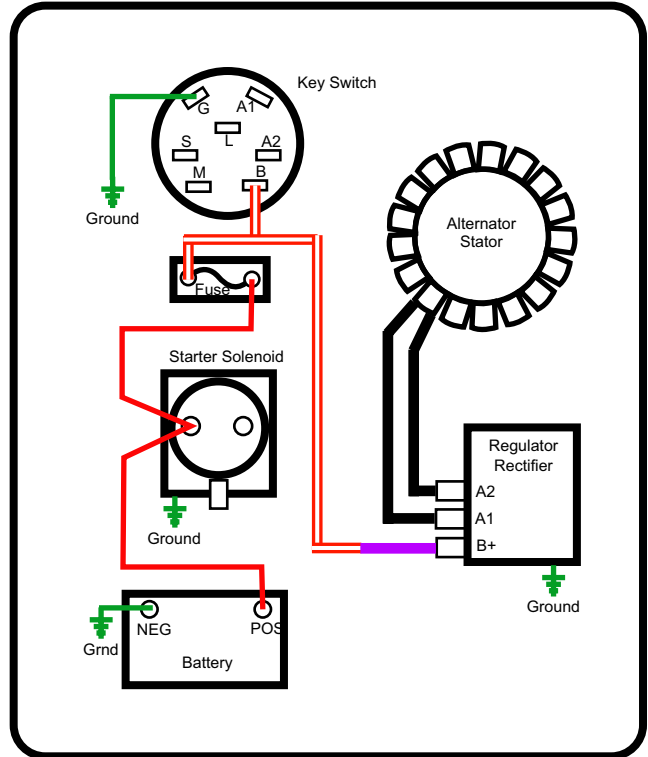

Figure 7.26
5. From the harness connector: See Figure 7.26.